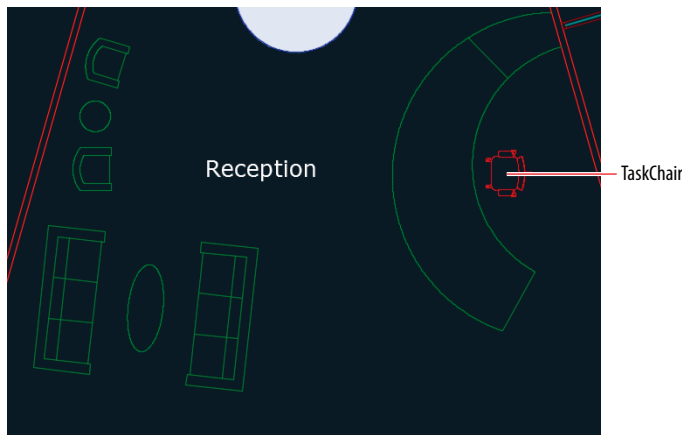

FIGURE 9.19 Inserting content from Autodesk Seek into a drawing
9. Delete the receptionist's chair, move the new chair into its place, and rotate it to face the room. Figure 9.19 shows the downloaded chair behind the receptionist's desk.